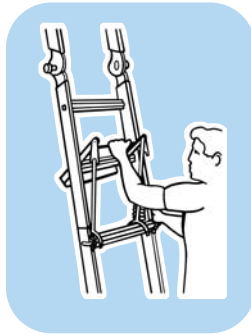

Figure G-4
4. Push platform forward and step up through the rung above platform (see figure G-4).